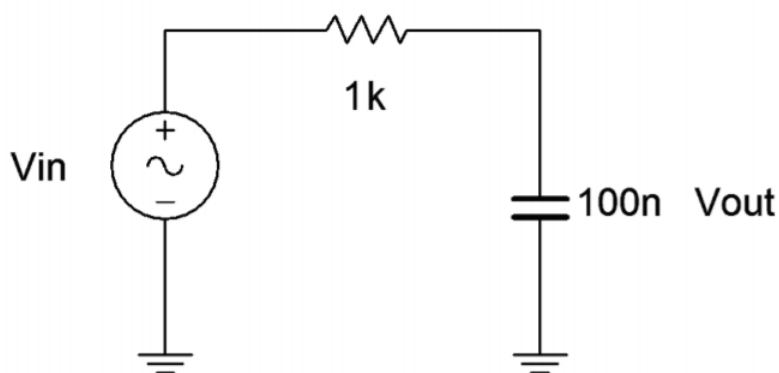

Figure 1.5.2
6. To create a simple Bode plot, the lag network of Figure 1.5.2 will be used. Assemble this circuit and record its theoretical critical frequency in Table 1.7.2.
14. Build the lag network of Figure 1.5.2 in a simulator and run an AC Analysis. Be sure to run this from at least one decade below the critical frequency to at least one decade above. Also, use a decibel scale for the gain amplitude. Compare the results to the Bode plot generated in Step 13 and include this graph with the technical report.